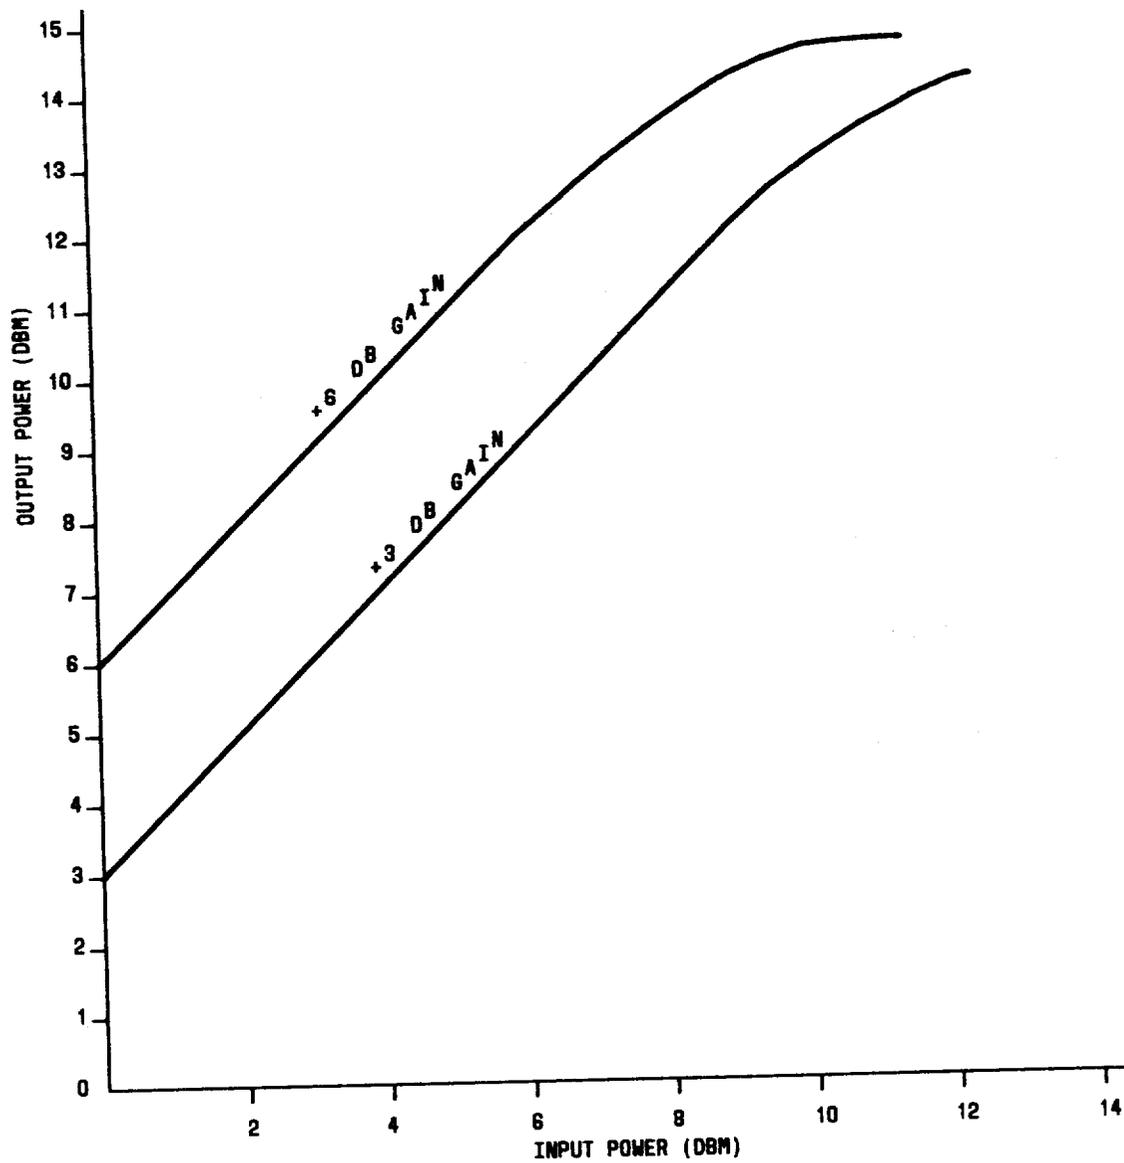

Fig. 6—Output Power Capability
**4.05** Figure 6 shows the output power capability of the 2-wire dual terminal (L) repeaters. The output power is determined by input power and repeater gain, as shown by the +6 dB gain line in the figure. Power limiting occurs in these units at about 11 dBm.